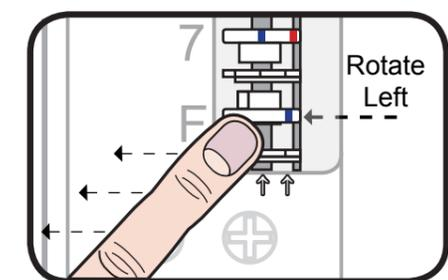

Fig.3
2. Whilst holding the inner gear the coding disk can be rotated using your finger. Rotate the disk until the blue line of the coding disk is in alignment with the right hand arrow (as per fig.3).
3. With the blue line in position the inner gear can be released. The tab of the inner gear will still be visible (as per fig.3) – using your finger rotate the coding disk around to the left / clockwise until you see the tab of the inner gear drop down into the cut-out of the coding disk.